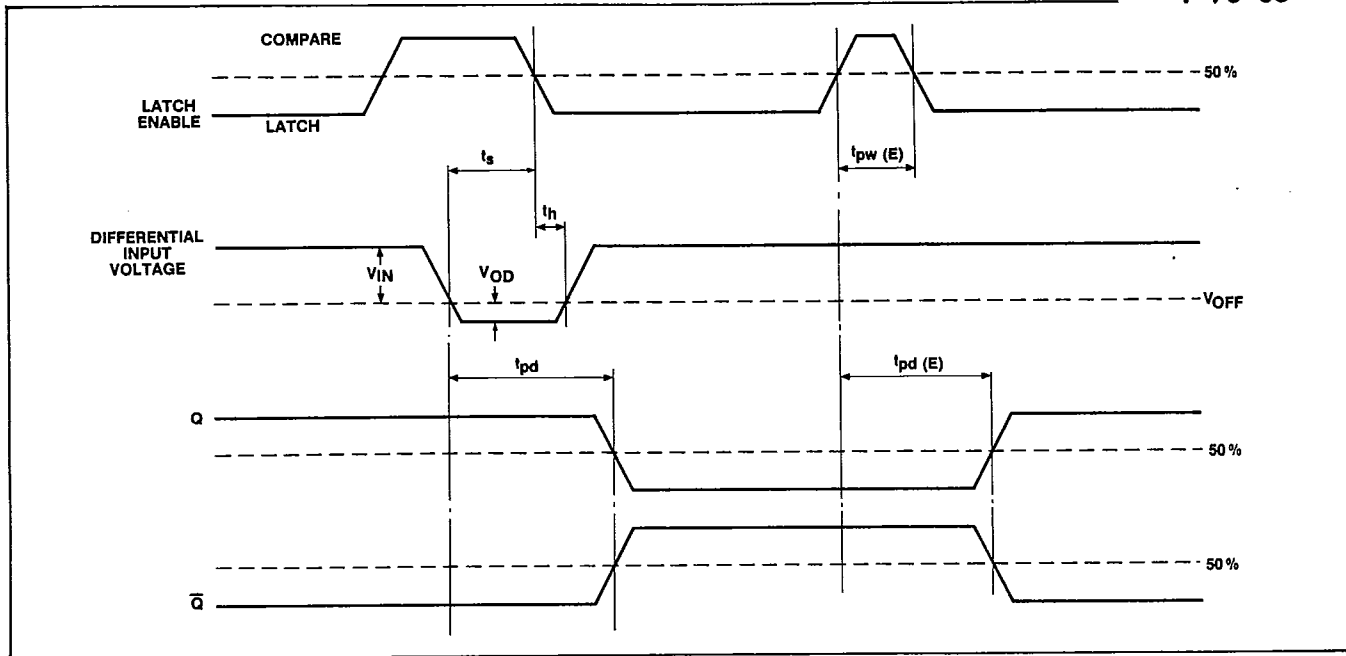

Fig.4 Timing diagram SP9687
The timing diagram, Fig.4, shows in graphic form a sequence of events in the SP9687. It should not be interpreted as 'typical' in that several parameters are multi-valued and the worst case conditions are illustrated. The top line shows two latch enable pulses, high for 'compare', and low for latch. The first pulse is used to highlight the 'compare' function, where part of the input action takes place in the compare mode. The leading edge of the input signal, here illustrated as a large amplitude, small overdrive pulse,
**Switching terms (Refer to Fig.4)**